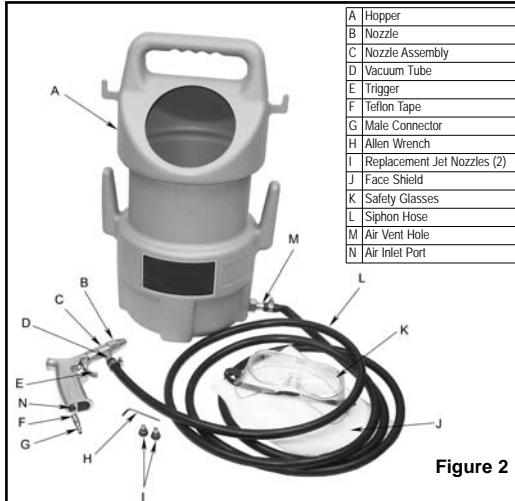

Figure 2
2. Install a 1/4" NPT male connector (not included) into the air inlet port on the tool (see Figure 2). **Note: Use Teflon® Tape on all threaded connections.**
1. Place one of the hose clamps onto the siphon hose and push the end of the siphon hose onto the connector on the bottom of the hopper. Tighten the hose clamp. (see Figure 2). **NOTE: Always make sure that the air vent hole (M) remains open at all times and is facing straight up. Abrasives must flow freely from the hopper to the level part of hose below the hopper.**
2. Place the other hose clamp on the other end of the siphon hose and push the end onto the vacuum tube (D). Tighten the hose clamp. (See Figure 2).